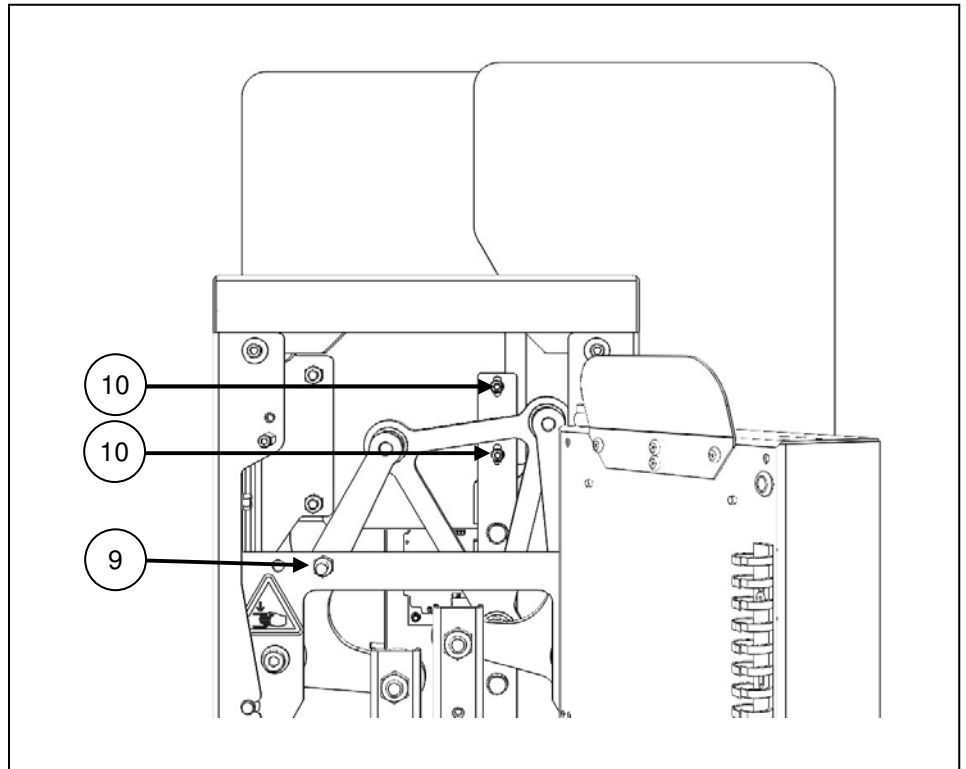

Fig. 14-12 View of central housing with mounting panel swung to the side
Then the drive unit must be blocked again and screws (9) (see Fig. 14-12) must be tightened. Take care that the cover strip carrier is in contact with the rear face of the glass.